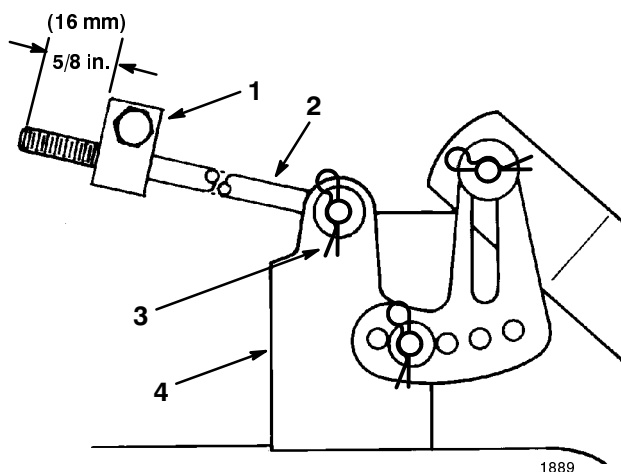

Figure 52
- Measure the length of the rod extending out of the front of the adjusting block on the sides of the chassis (Fig. 52). If the rod length is not 5/8 in. (16 mm), remove the hairpin cotter and washer from the end of the rod (Fig. 52) and turn the rod until the 5/8 in. (16 mm) dimension is obtained. Then install the end of the rod into the hole in the mower mount and secure it with the washer and hairpin cotter. Repeat this procedure on the opposite side of the mower.